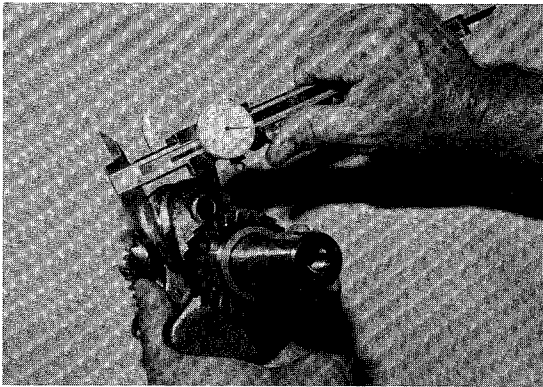

Figure 6-34
- If crank pin is worn more than .002 in., replace crankshaft (**Figure 6-34**).